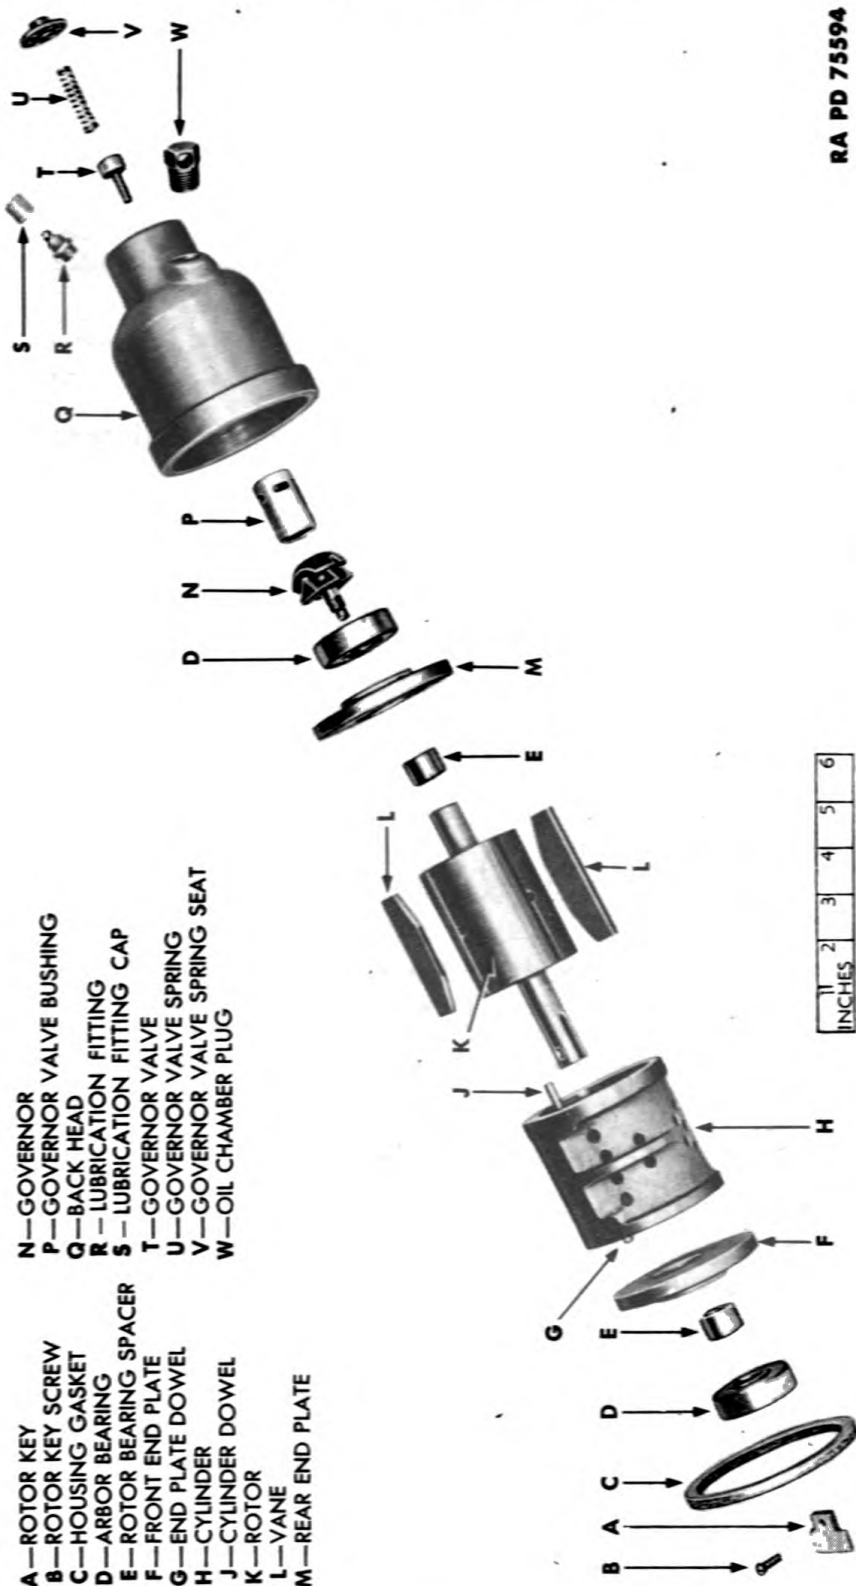

Figure 95 — Air-driven Sump Pump Motor — Exploded View
(1) In order that the pump may be well lubricated at general points the air line lubricator should be used as described in (par. 14 b (2)). In addition the following should be done:
(2) Before starting pump, remove oil chamber plug (fig. 95) from back head. Fill oil chamber with OIL, engine, SAE 10. Refill after each 4 hours of operation. *NOTE: Rate of consumption should be about one-half teacupful every 4 hours. If rate varies noticeably from this, adjust oiler (par. 72 c).*